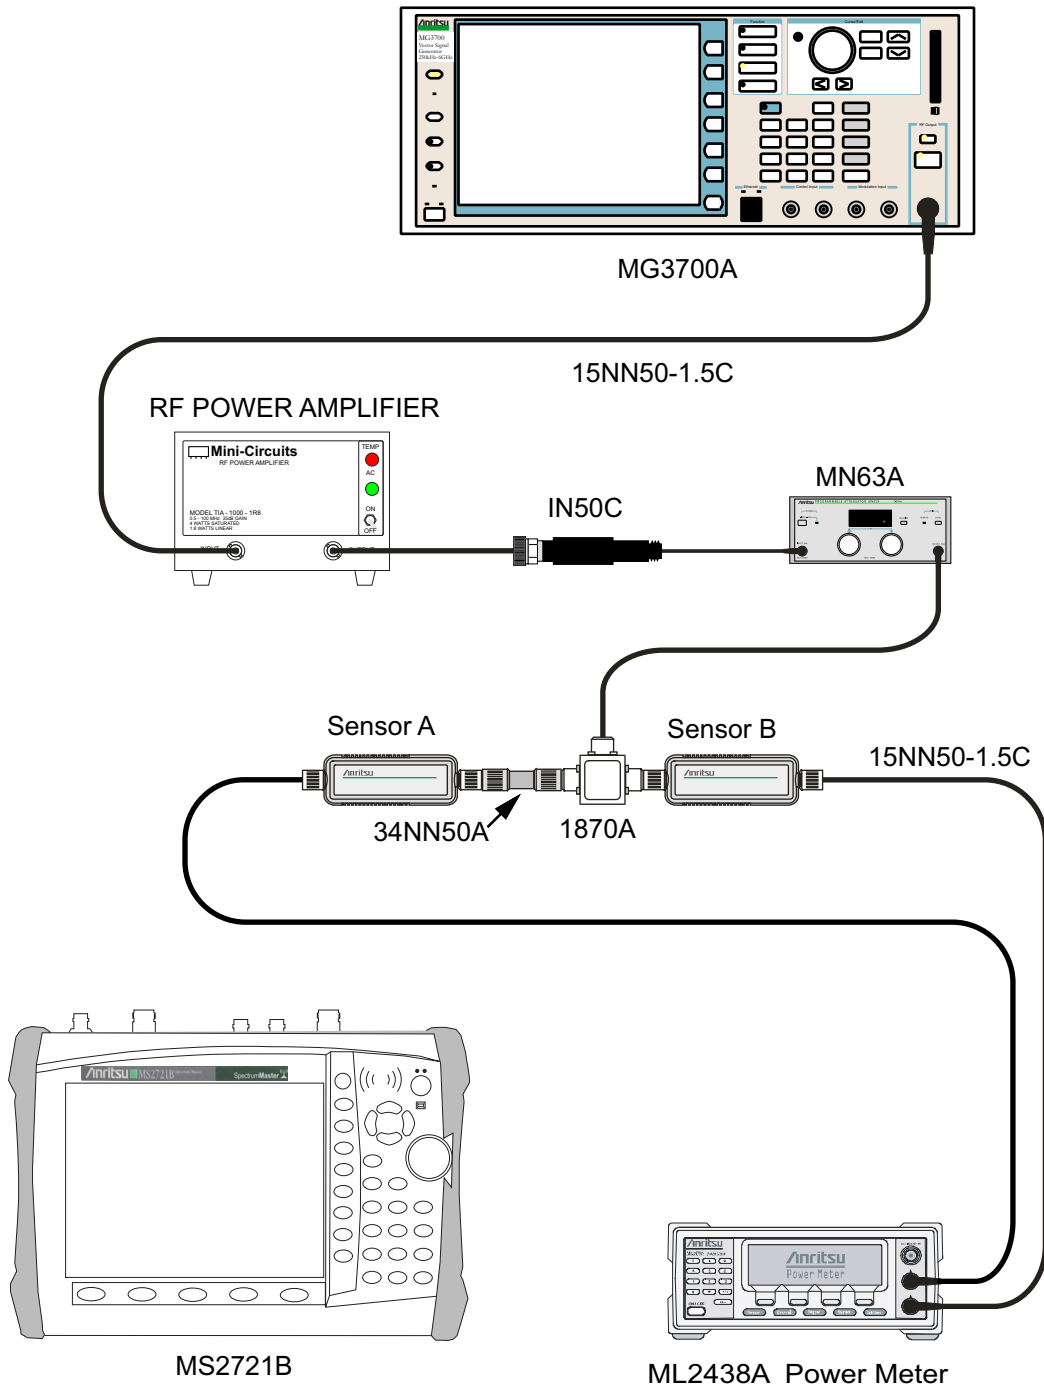

Figure 3-30. DVB-T/H SFN Option 78 – Level Accuracy Verification Setup – Two Sensors
2. Connect the MG3700A Signal Generator, Power Amplifier with N(f)-to-BNC(m) Adapters, RF Limiter, MN63A Programmable Attenuator, Power Divider, Power Meter, and Power Sensors as shown in Figure 3-30.
50. Turn off the power amplifier, disconnect the power splitter from the MS2721B, reconnect Sensor A to the power splitter as shown in Figure 3-30.
4. Connect the MG3700A Signal Generator, Power Amplifier with N(f)-to-BNC(m) adapters, RF Limiter, MN63A Programmable Attenuator, Power Splitter, Power Meter, and Power Sensors as shown in Figure 3-30, “DVB-T/H SFN Option 78 – Level Accuracy Verification Setup – Two Sensors” on page 3-114.